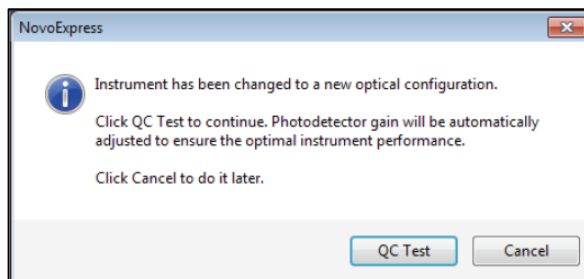

Figure 36. Dialog Window for Performing the QC Test
- After NovoExpress is restarted, the following window (Figure 36) will appear. Click **QC Test** to continue.